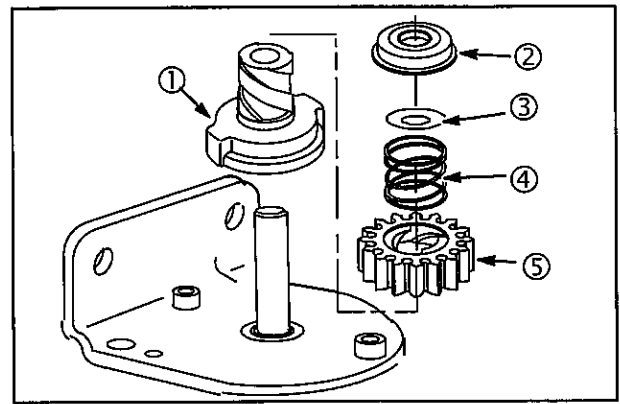

Fig. 8
1. Assemble clutch drive (1) to starter shaft. Rotate clutch until it drops into place, Fig. 8.
2. Install pinion gear (5) with beveled side of teeth up. Then install return spring (4) making sure spring is in recess of starter gear.
3. Install spring washer (3) with concave side up. Install retainer (2).